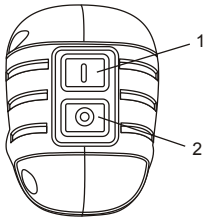

Fig. 6
To turn the sander ON, push the upper switch button (1) until the sander starts. To turn the sander OFF, press the lower switch button (2) (Fig. 6).